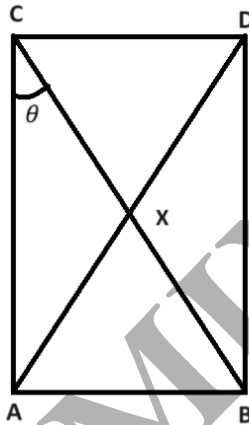

Figure Q1a: Bridge.
- a) **Figure Q1a** shows the symmetrical part of a rectangular bridge. Point X is the midpoint of $ABCD$. Find the size of θ angle, AB , BC and BD if $CD = 8\text{ m}$ and $AC = 16\text{ m}$.